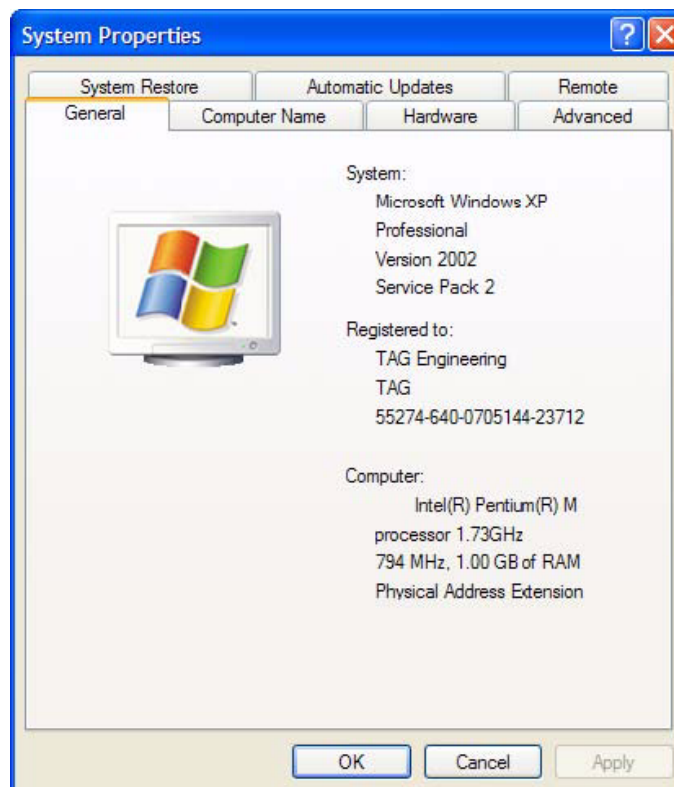

Figure 6-9 System Properties
2. Double-click the **System** icon. (Figure 6-9).